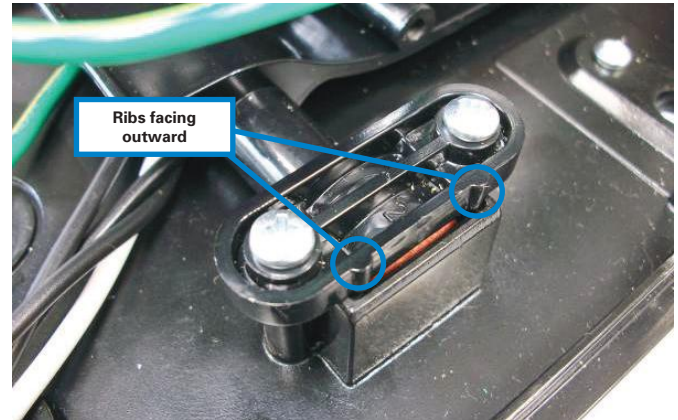

Figure 6
6. Reinstall the two (2) screws and plastic housing retainer onto the foot of the dryer. Make sure that the ribs on the housing retainer is facing outward or facing away from the dryer. (Figure 6)